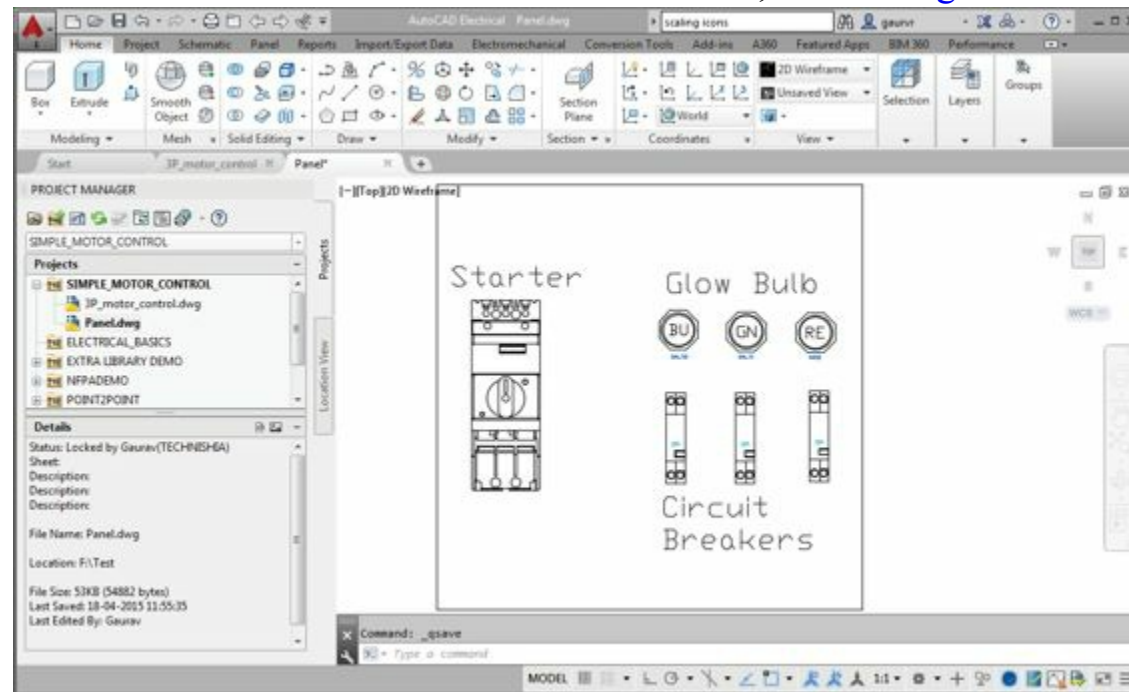

Figure-1. Panel drawing in AutoCAD Electrical
- Open any project that you have created earlier. Now, open the panel drawing for which the 3D model has been created in Autodesk Inventor; refer to Figure-1.